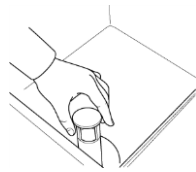

Fig.9
- 1- Open the door and verify that all internal components, water flow device included, are in the correct position. (Fig.9)